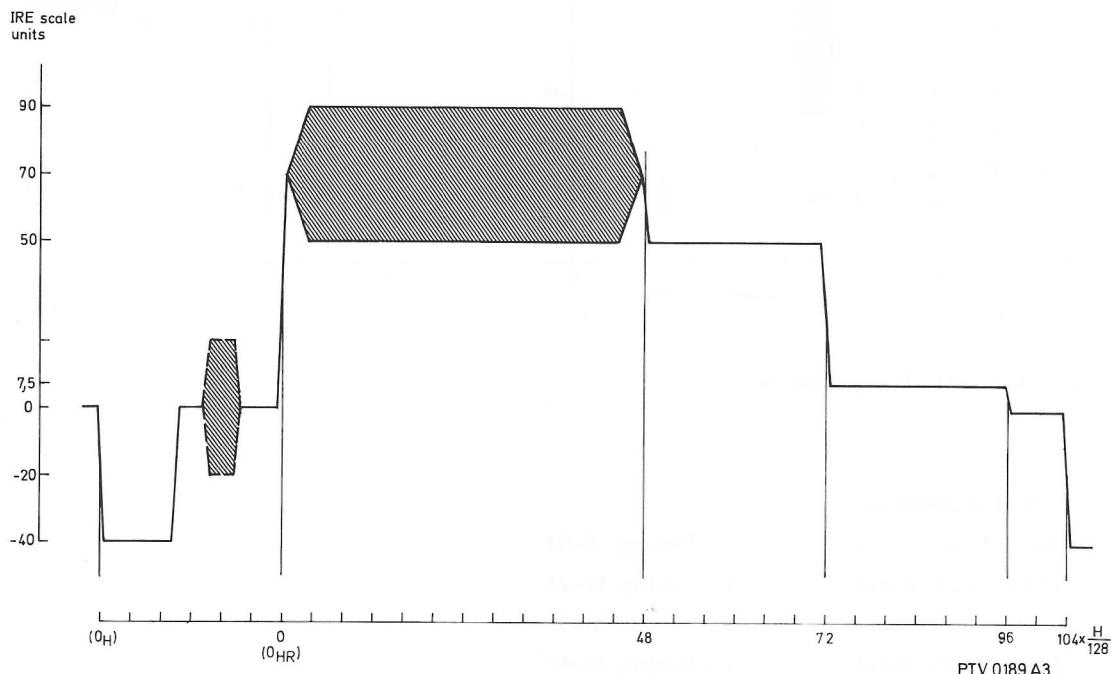

Fig. 3-8 VIR
3. (E) Vertical Interval Reference signal (VIR) (See also fig. 3-8)